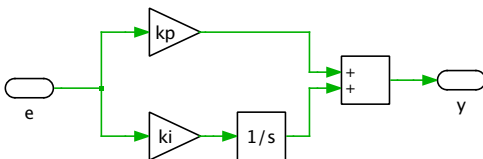

Figure 4: Continuous PI voltage controller.
In this exercise, you will replace a continuous proportional-integral (PI) voltage controller for a buck converter with a digital PI controller. The continuous PI voltage controller for the buck converter is depicted in Fig. 4. The continuous PI control law is described by the function: